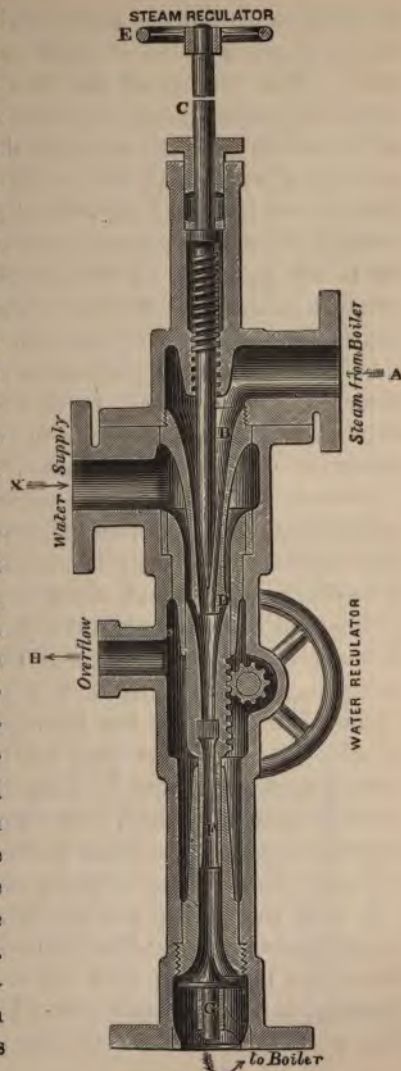

Fig. 1.—Injector.
*The Injector.*—Steam is admitted into the injector (Fig. 1) through a cock on the top or the side of the boiler, to obtain steam free from water. When this cock is open, steam can enter the injector through A, and occupy the space B surrounding the spindle C. The spindle is finished conically at its lower end, and forms a steam-tight valve at D, controlling the egress of the steam into the lower portion of the injector. When the wheel E, on the end of spindle C, is moved to raise the spindle, steam rushes through D, past the mouth of the inlet-pipe X leading from the water in the tank